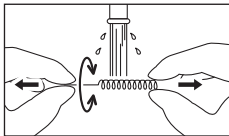

Fig. 27
- ② After using the Cleaning Wire, clean the wire for 15 seconds or more by pulling its both ends with your fingers while running water all around the wire (Fig. 27).